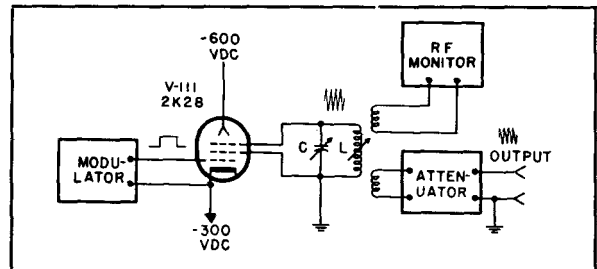
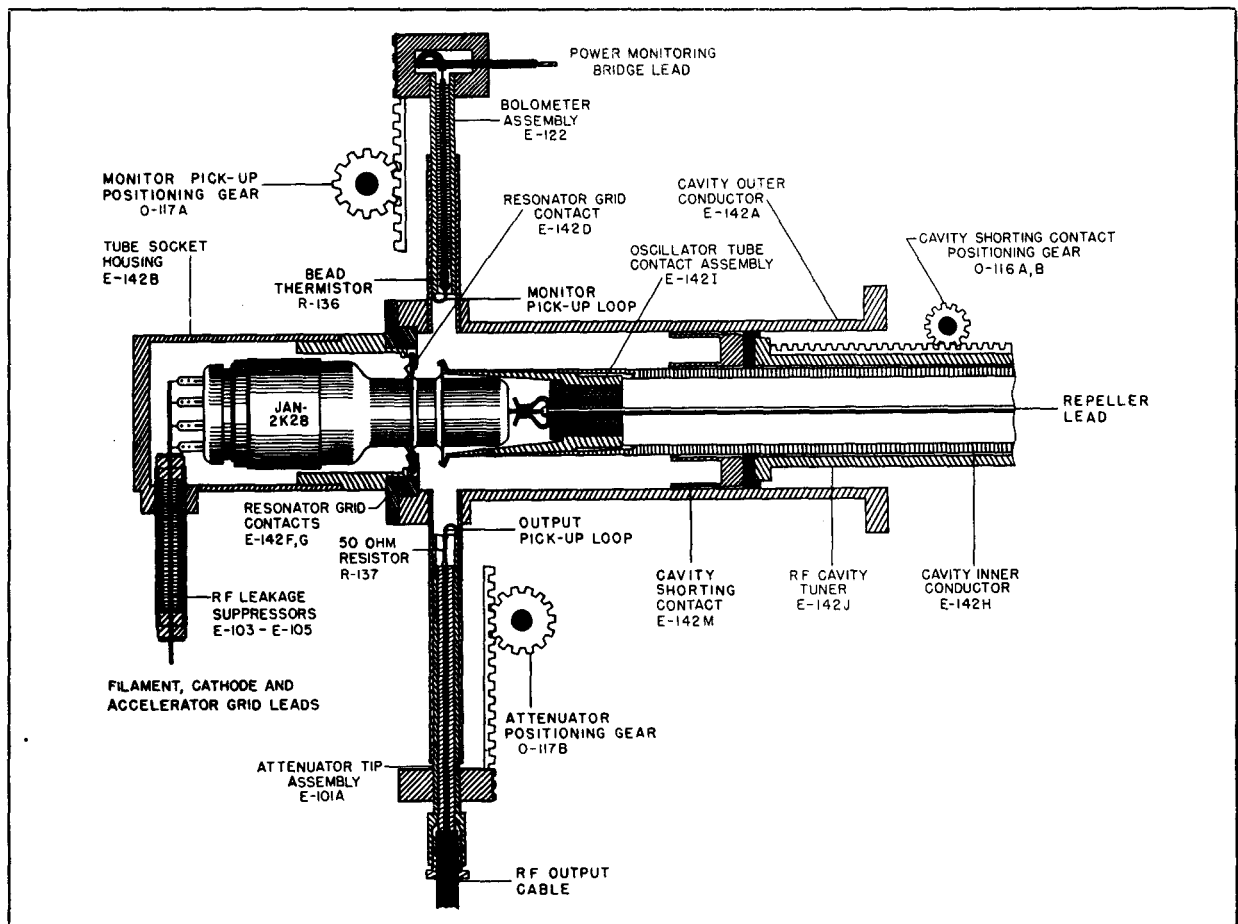

Figure 3-2. Equivalent Oscillator Circuit
Figure 3-3. Cutaway View of Oscillator
the external load. The oscillator circuit is that of a velocity-modulation tube operating with an external resonant cavity. The tube used is a type JAN-2K28 reflex klystron, the name "reflex" being derived from the fact that a single set of grids performs the dual function of bunching and then catching the electron stream. An equivalent circuit of the oscillator is shown schematically in figure 3-2.
The resonant circuit L and C in figure 3-2 connects to two tube electrodes known as resonator grids. Physically, the resonator grids of the tube are separated from the cathode by an accelerator grid which accelerates the electrons drawn from the cathode. The repeller electrode on the
Assuming that the circuit of figure 3-2 is oscillating, its operation can be considered as follows: the tank circuit and resonator grids are highly positive with respect to the cathode and the accelerator grid has been driven positive with respect to the cathode by the pulse from the Modulator so that electrons are drawn towards the positive resonator grids.
A cut-away view of the actual oscillator circuit used in the signal generator is shown in figure 3-3. The tuned circuit shown in the equivalent oscillator circuit of figure 3-2 is a resonant cavity which is tuned by changing the position of the cavity shorting contact. The output power is coupled to the external load by means of a pick-up loop. An identical loop is provided to supply power to the output monitor so that the amplitude of oscillation and thus the power applied to the output attenuator can be known at all times.
a. RF OUTPUT.-The rf power output from the oscillator is obtained from the resonant cavity by means of a pick-up loop located in a small section of waveguide which opens into the resonant cavity (figure 3-3). The cross-sectional area of the waveguide is small enough so that energy is usually considered not to be propagated directly down the waveguide; that is, the waveguide is smaller than the cut-off size of waveguide for these frequencies. However, a small amount of energy is propagated down the guide and this energy decreases exponentially as the length of the guide is traversed. Since the output power in decibels is proportional to the square of the voltage obtained, it is possible to move the pick-up in the waveguide by means of a gear system and to calibrate the gear system linearly in decibels of output power. This has been done in the TS-403/U, providing a directly calibrated power output system.
**b. RF MONITOR.**—In order that the power applied to the external load can be known, it is necessary that the current or voltage applied to the load (as well as the load itself) be known. In the TS-403/U, the fields within the cavity are monitored by a thermistor bridge circuit. A pick-up loop and piston type attenuator (figure 3-3) similar to the output system are used to feed a small amount of power from the resonant cavity to a bead thermistor R-136 which is part of the bridge circuit. The bridge is balanced for dc conditions and when the rf power from the resonant cavity is applied to the circuit, the bridge becomes unbalanced, the amount of unbalance being indicated by a dc microammeter connected across the bridge.